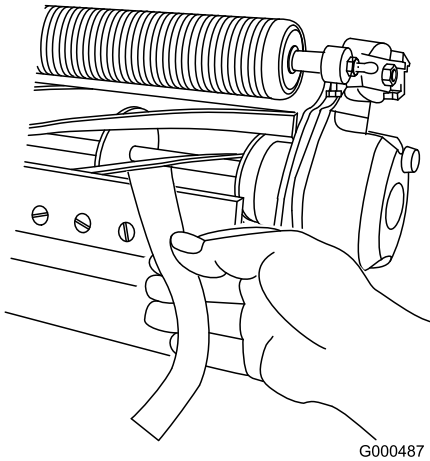

Figure 5
11. Test the cutting performance by inserting a long strip of cutting performance paper (Toro part number 125-5610) between the reel and bedknife, perpendicular to the bedknife (Figure 5). Slowly rotate the reel forward; it should cut paper.